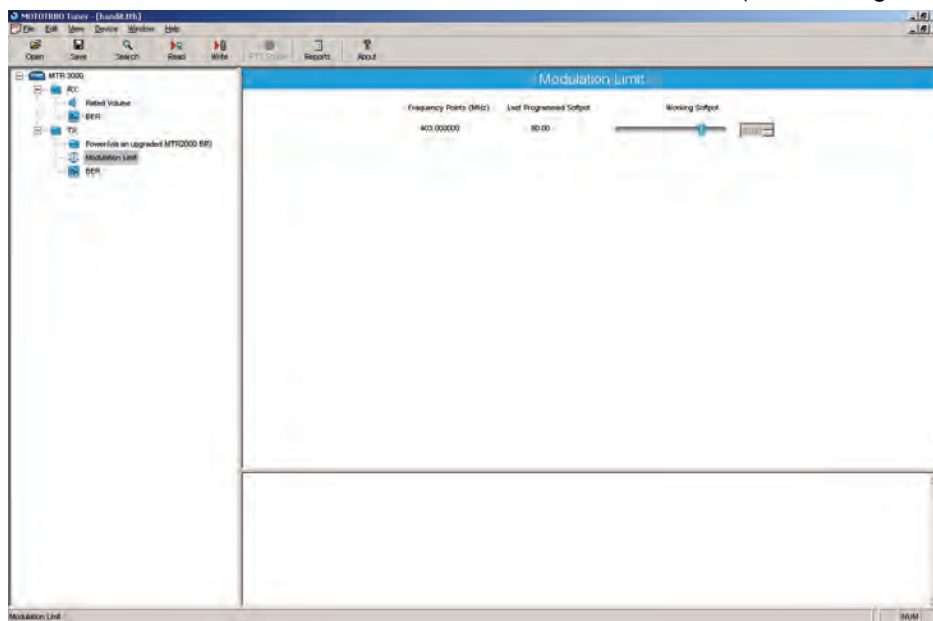

Figure 13-11 Tx Menu tree (Tuning Procedure with no Tx data)
5. Select “Modulation Limit” under the Tx menu in the tree view (Refer to Figure 13-11).